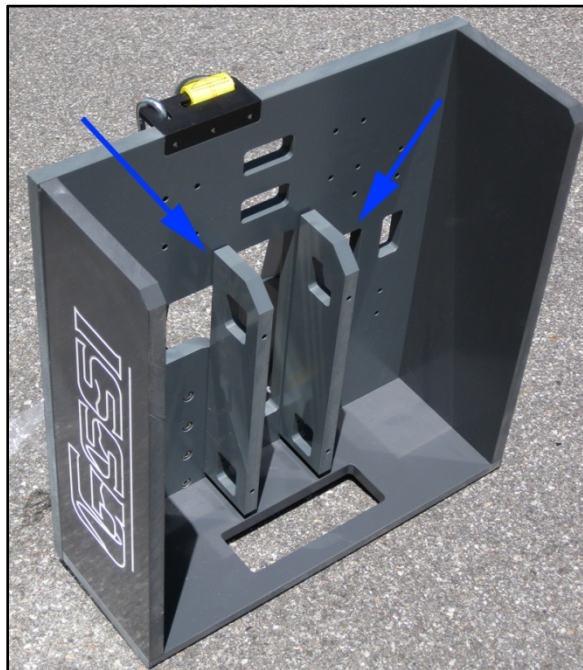

Figure 2: Antenna mount showing 900 MHz ribs.
- b)** Remove the 900 MHz antenna ribs from the antenna mount. These are only used with the 900 MHz antenna. They are shown in Figure 2 with blue arrows.